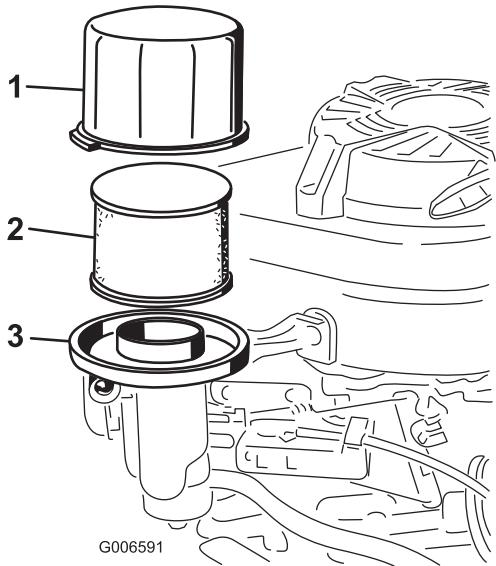

Figure 22
3. Remove the cover and clean it thoroughly (Figure 22).
4. Remove the foam pre-filter and paper filter (Figure 22).
5. Remove the foam pre-filter from the paper filter (Figure 22), and replace the paper filter if it is excessively dirty.
6. Tip the machine, with the air filter up, to drain the oil into the drain pan (Figure 22).